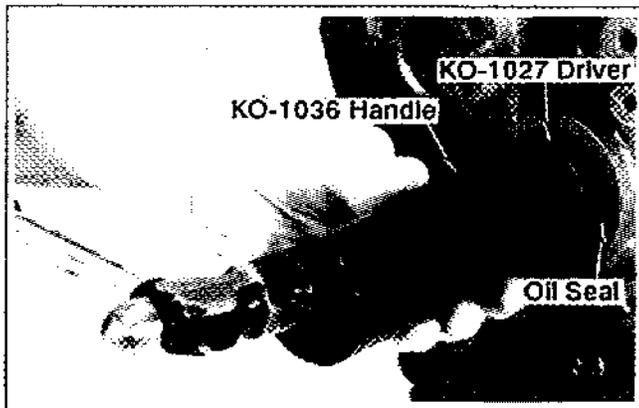

Figure 11-20. Installing Oil Seals.
2. Use handle no. **KO-1036** and seal driver no. **KO-1027**. Install the seals until the driver bottoms against the crankcase or closure plate. See Figure 11-20.